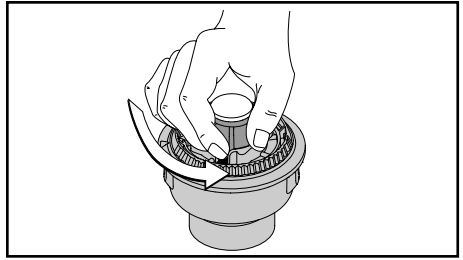

Fig. 19
1. If you need to remove the Bump Knob to clean the spool or remove jammed, excess line, hold the outer spool, and unscrew the Bump Knob counterclockwise (Fig. 19).